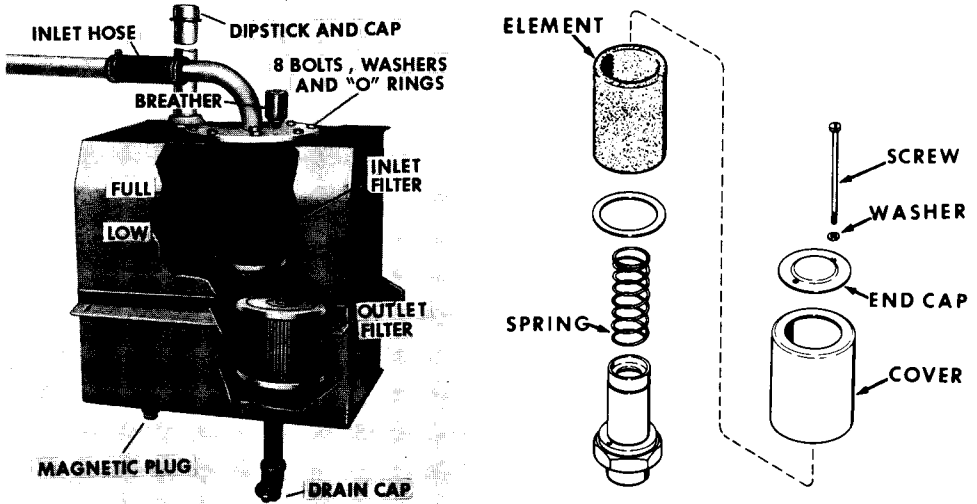

Figure 15
2. Disconnect the hose on the filter inlet elbow at the top of the tank, Figure 15.